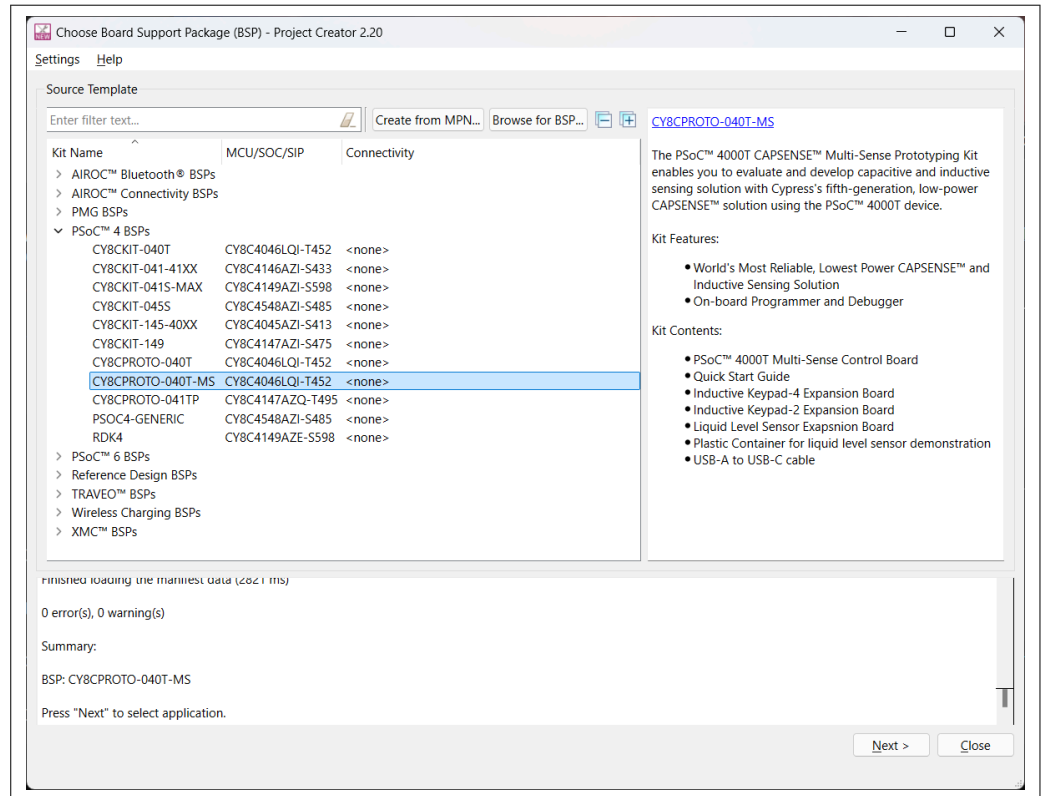

Figure 14 Creating a new application: Choose Board Support Package
- c. Select **CY8CPROTO-040T-MS**, and click **Next**, as shown in Figure 14